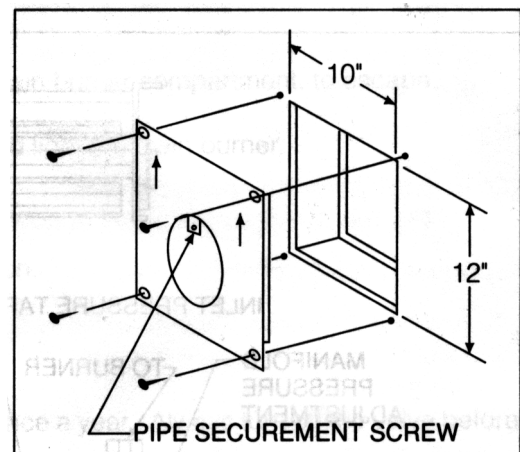

Figure 6
Position the interior wall shield into position and secure with (4) 1" fasteners, (1) in each corner. Bend the tab and use a 1/2" screw to secure the pipe to the wall shield. See Figure 6.